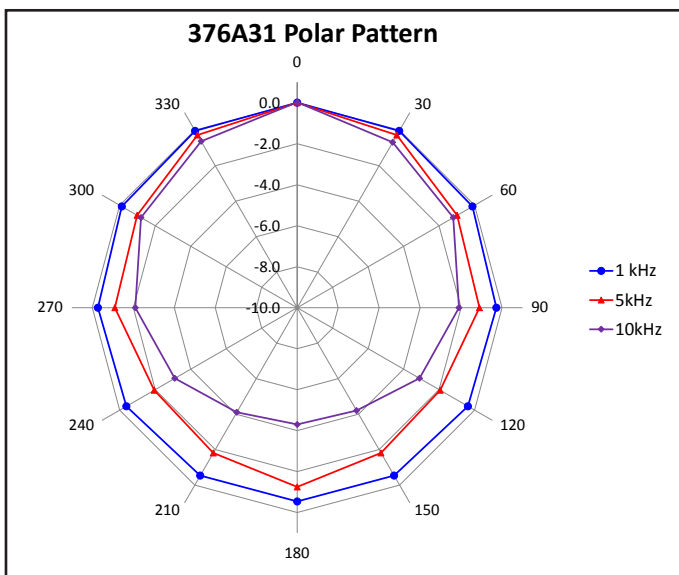

Figure 2: The polar pattern of the 376A31 mic (1/4" capsule) shows good omnidirectional behavior up to relatively high frequencies.
**Figure 2** shows the polar pattern for the 1/4" 376A31, which has an excellent omnidirectional characteristic up until the 10 kHz maximum frequency of my measurement. And even there, the polar pattern is reasonably smooth and does not have excessive roll-off. The polar pattern for the 1/2" 376A32 is shown in **Figure 3**. It can be seen to deviate from omnidirectional at a somewhat lower frequency than the 1/4" mic, but the response is still rather smooth and well-controlled. The 376A33's polar pattern matched that of the 376A32 within the limits of my measurement.